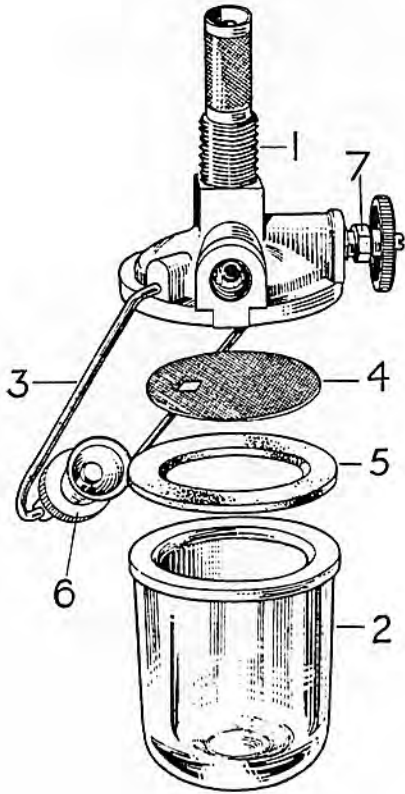
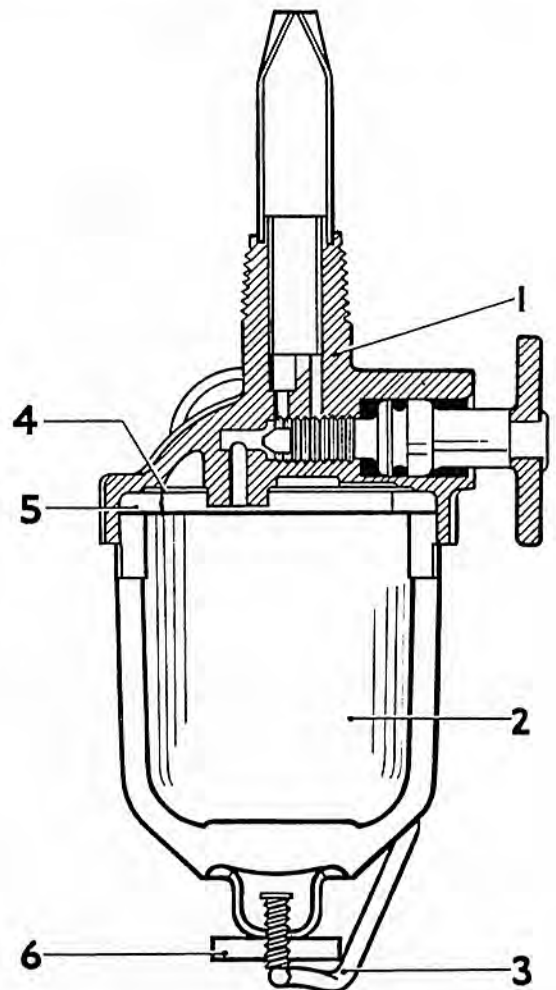

FIG. 103
FIG. 104
The fuel valve and sediment bowl assembly is shown in Fig. 103. It consists of a fuel valve assembly (1), to which is attached a sediment bowl (2), by means of a retainer. Located between the bowl and the filter is a filter gauze (4), and a gasket (5). A cross section through the valve and sediment bowl assembly is shown in Fig. 104.